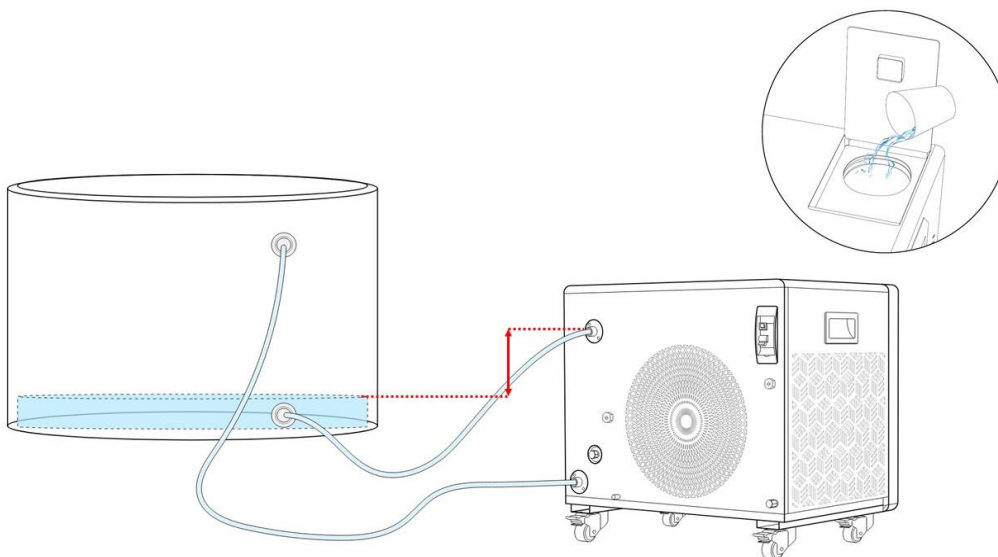

Figure 4. Water Level Lower Than Chiller's Inlet
- Case 2: Tub water level is lower than the chiller's inlet (See Figure 4)